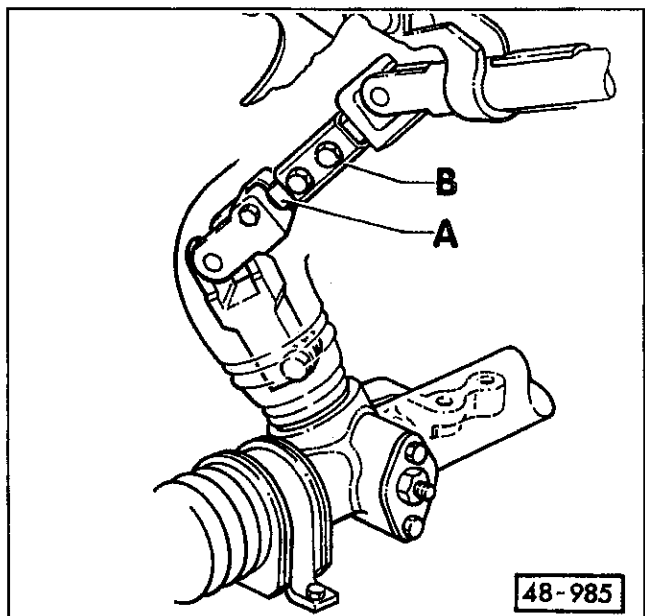

Fig. 15. When lifting engine/transmission assembly, lower half of joint shaft (A) must be guided into upper half of joint shaft (B).
- When lifting the engine/transmission assembly, the lower half of the U-joint shaft must be guided into the upper half of U-joint shaft (helper required). See Fig. 15.